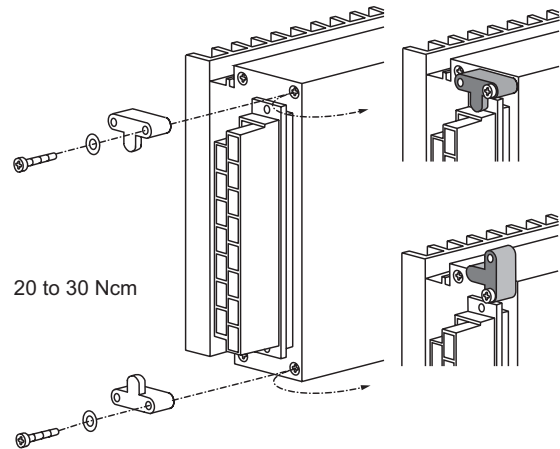

Fig. 31
- Connector retention brackets HZZ01216-G (CRB-HKMS); see fig. 31.